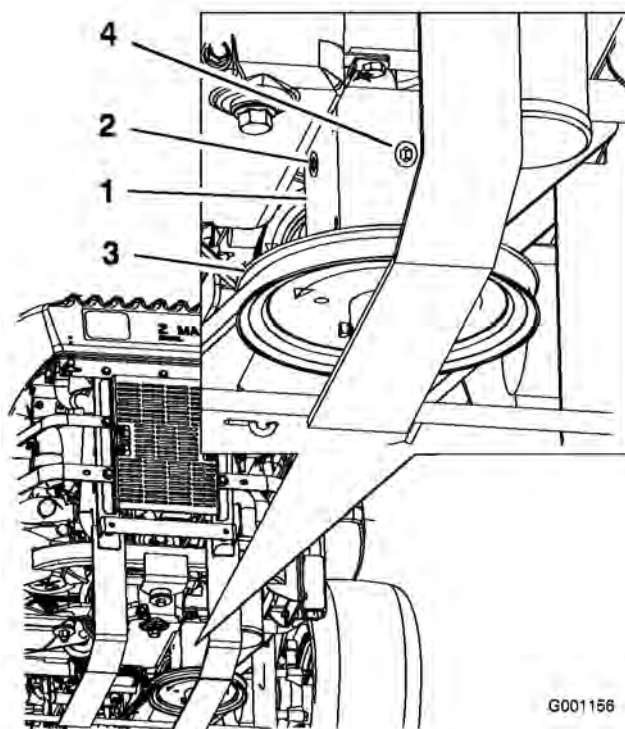

Figure 54
4. Remove the side or rear plug on the gear box. (Figure 54).